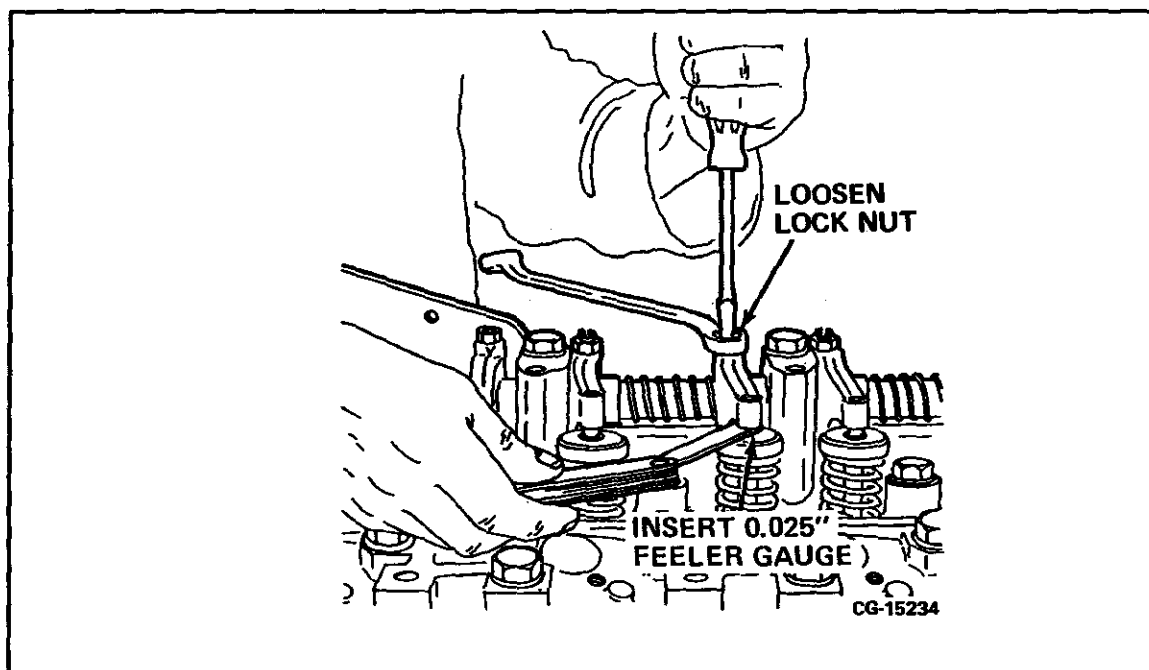

FIGURE 19-45 Adjust Valve Lash
3. Set valve lash by loosening the locknut and turning the valve adjustment screw with the appropriate size feeler gauge inserted between the rocker arm and valve stem tip. Tighten the valve adjustment screw until the valve lever can support the feeler gauge. Refer to FIGURE 19-45.